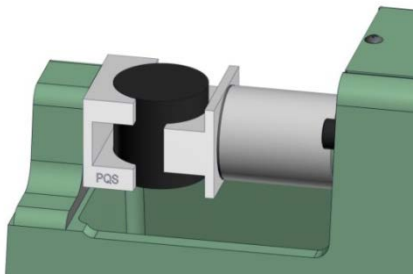

Figure 5.3.4
6. After the specimen breaks, the red Pressure Indicator Follower of the Low Pressure Gauge will display the maximum shear strength (σ_D in N/cm^2). Remove the specimen from the Universal Strength Machine. The maximum indicated value divided by two on the outer scale is the shear strength (σ_S in N/cm^2). See Figure 5.3.4 for test procedure.